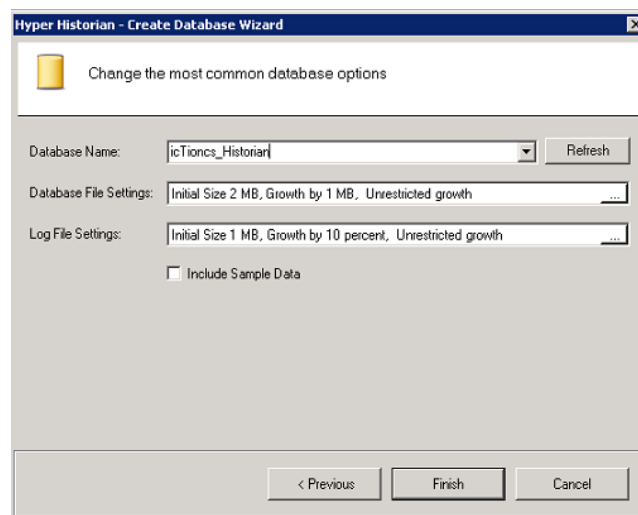

Figure L2.3 - SQL Database Wizard: Common Database Options
6. In the next dialog, shown in Figure L2.3, uncheck **Include Sample Data** option. For the **Database Name**, type “**icTioncs_Historian**”. Leave the default file settings as default and click **Finish**.